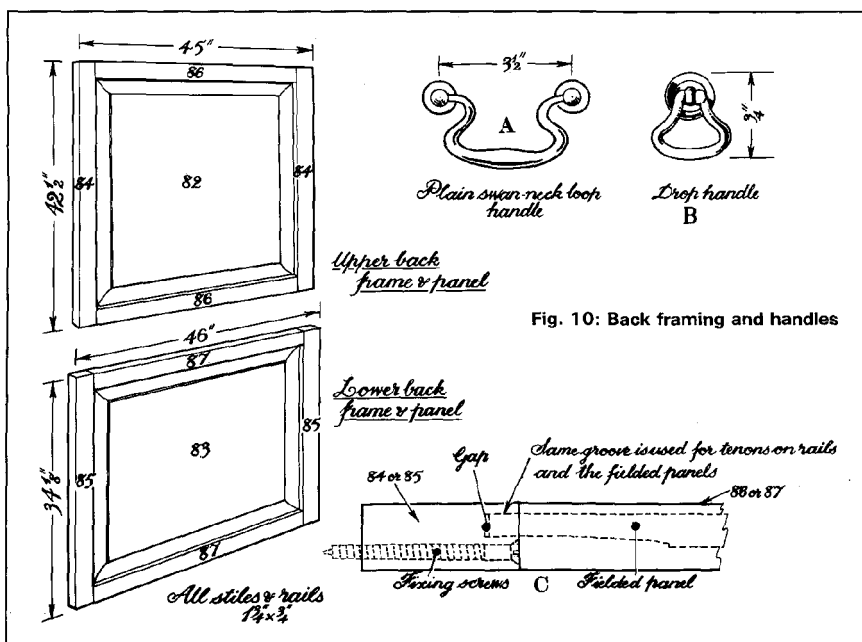

Fig. 10: Back framing and handles
The front and back drawer rails (12) are tenoned into the main carcass ends (7), as are the top separation rails 15 and 38 (visible in figure 4, overleaf). Muntins (14), drawer bearers (13) and a central bearer (16) connect these four rails. The two upper drawers are supported by this conventional framing, while the lower single drawers run on bearers (30) glued to the cabinet ends. This ignores wood movement, but the bearers are still secure. The drawer construction is orthodox, with lapped dovetails on the fronts and through dovetails on the backs. The bottoms are solid wood, grooved into the sides and fronts without being glued in, so that they can expand and contract. You could, of course, use plywood for the bottoms instead. The handles on the drawers are solid brass and match those on the fall front; they are shown at A in figure 10.
within a fall-front drawer, shown at right and at the bottom of the previous page, that pulls out to provide knee room for writing. The fall front (42) is made up of two pieces face-glued together to form a lip that fits into a notch cut into the side (43) when the fall is down (see B and D). The fall has three hinges, and is fitted with two brass handles, shown at A in figure 10. Two mahogany lippings (47 & 48) mask the drawer front's top edge and the exposed pine edge of the drawer top.
The carcase top (77) laps over the back framing (shown in figure 10), and it also laps over the bookcase ends (70) and the cornice (75). In the original, it is screwed down all around, which does not allow for wood movement.
Figure 10: Back framing and handles. Chances are that the framed panels in this piece were screwed into place, not glued. This would have allowed their removal, considerably lightening the piece if it had to be moved. It was difficult to see how the back frame was constructed, so I am giving details of typical framings that you can use. Those on the original were of solid oak, although you may wish to use pine. In any case, the frames are made up with conventional mortise and tenon joints. The fielded panels (82 & 83) are